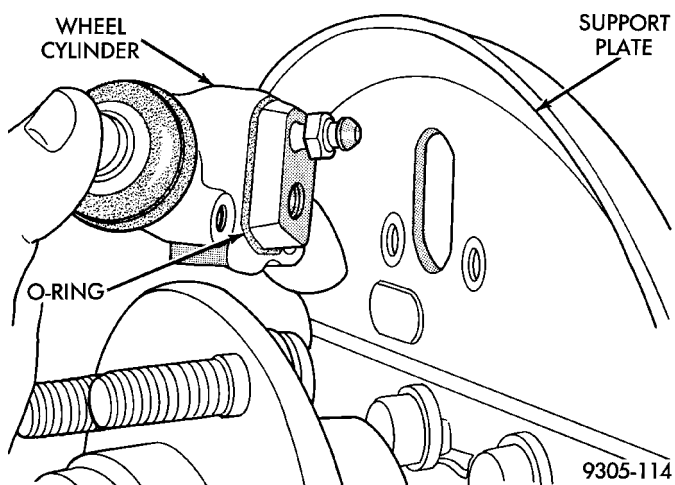

Fig. 95 Remove/Install Wheel Cylinder
(8) Remove rear wheel cylinder assembly from brake support plate (Fig. 95).